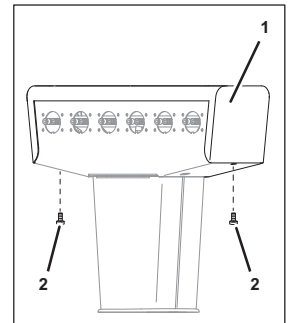

Fig. 29
- Remove the fastening bolts (Fig. 29/2) from the hood (Fig. 29/1).
- Lift and remove the hood (Fig. 29/1) from the unit.
- Position the hood (Fig. 29/1) with Plexiglas sheet (Fig. 29/2) on the unit.
- Attach the hood (Fig. 29/1) using the fastening bolts (Fig. 29/2).